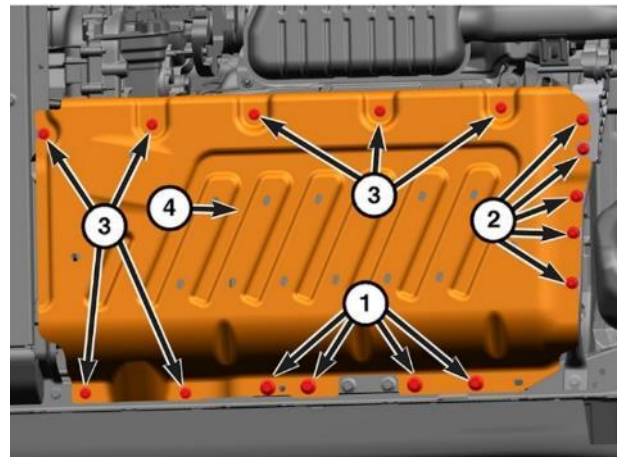

Figure 31 – Secondary Battery Skid Plate
5. Remove the bolts securing the PHEV secondary battery skid plate to vehicle (Figure 31).
6. Remove the PHEV secondary battery skid plate from vehicle (Figure 31).